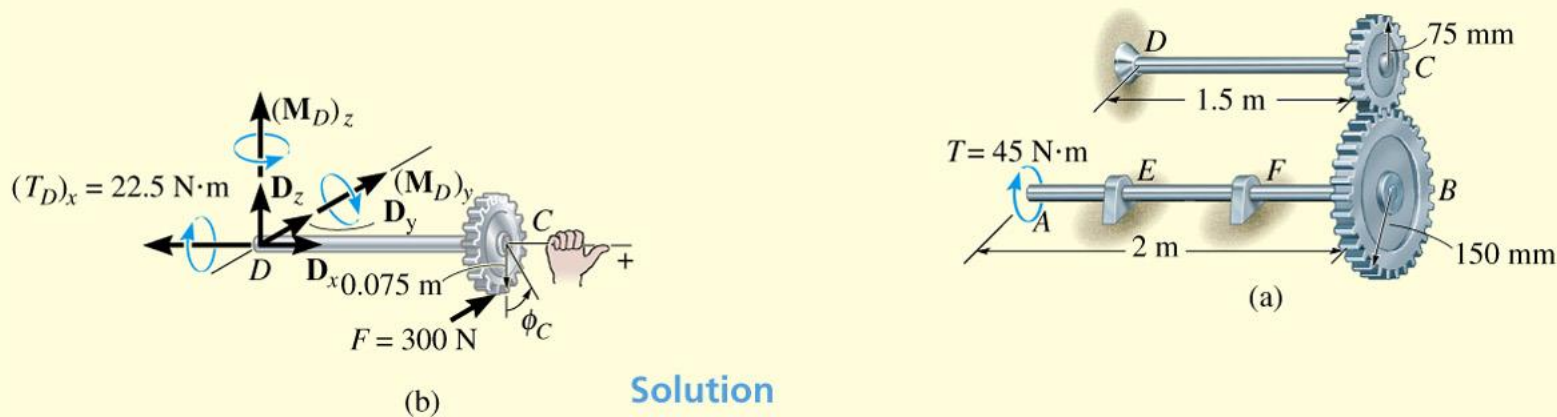

Fig. 5–21
The two solid steel shafts shown in Fig. 5–21*a* are coupled together using the meshed gears. Determine the angle of twist of end *A* of shaft *AB* when the torque  $T = 45 \text{ N} \cdot \text{m}$  is applied. Take  $G = 80 \text{ GPa}$ . Shaft *AB* is free to rotate within bearings *E* and *F*, whereas shaft *DC* is fixed at *D*. Each shaft has a diameter of 20 mm.
**Internal Torque.** Free-body diagrams for each shaft are shown in Fig. 5–21*b* and 5–21*c*. Summing moments along the  $x$  axis of shaft *AB* yields the tangential reaction between the gears of  $F = 45 \text{ N} \cdot \text{m} / 0.15 \text{ m} = 300 \text{ N}$ . Summing moments about the  $x$  axis of shaft *DC*, this force then creates a torque of  $(T_D)_x = 300 \text{ N}(0.075 \text{ m}) = 22.5 \text{ N} \cdot \text{m}$  on shaft *DC*.
**Angle of Twist.** To solve the problem, we will first calculate the rotation of gear  $C$  due to the torque of  $22.5 \text{ N}\cdot\text{m}$  in shaft  $DC$ , Fig. 5–21*b*. This angle of twist is